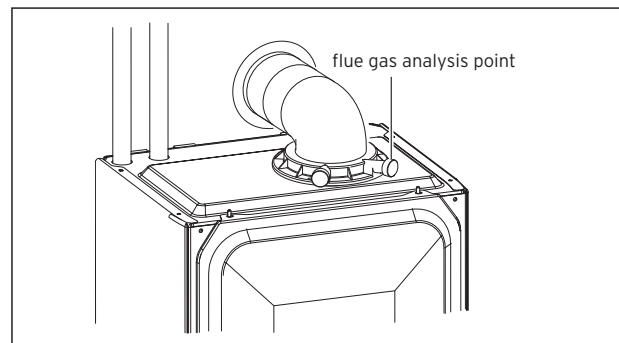

Fig. 9.1 Analysis point
- Measure the CO₂ at the combustion analysis point point, see fig 9.1.